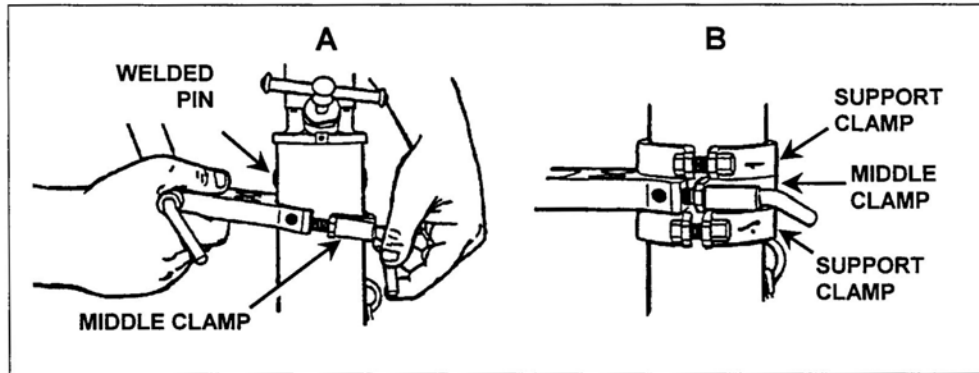
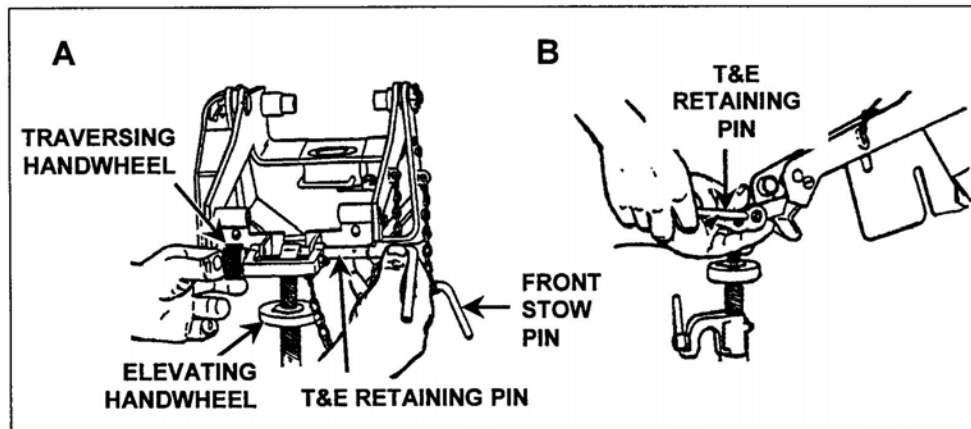

Figure 6. Attaching the Middle Clamp to M4 Pedestal
Figure 7. Attaching the T&E Assembly to the Gun Mount
- (2) Attach two support clamps. Using two 9/16 wrenches, attach one support clamp above and one below the already installed middle clamp. Tighten each screw two turns until snug.
- c. Attach the middle clamp to the M4 pedestal (A, Figure 6).
- (1) Assemble the middle clamp around the pedestal, about 2 inches below the welded pin (B, Figure 6). Tighten the clamp by turning the train lock clockwise. Using 9/16 wrench, equally tighten the hex head screw on other side of clamp.
- (2) Attach two support clamps. Using two 9/16 wrenches, attach one support clamp above and below the already installed middle clamp. Tighten each screw two turns until snug.
4. Attach the T&E assembly to the gun mount (Figure 7).